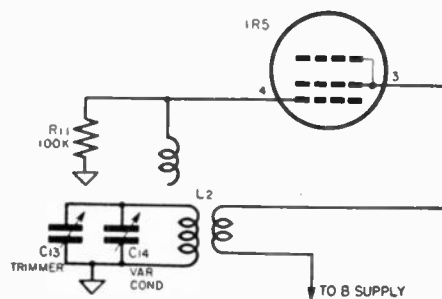

Fig. 8-11. Oscillator circuit.
h) Oscillator Circuit. See Figure 8-11.